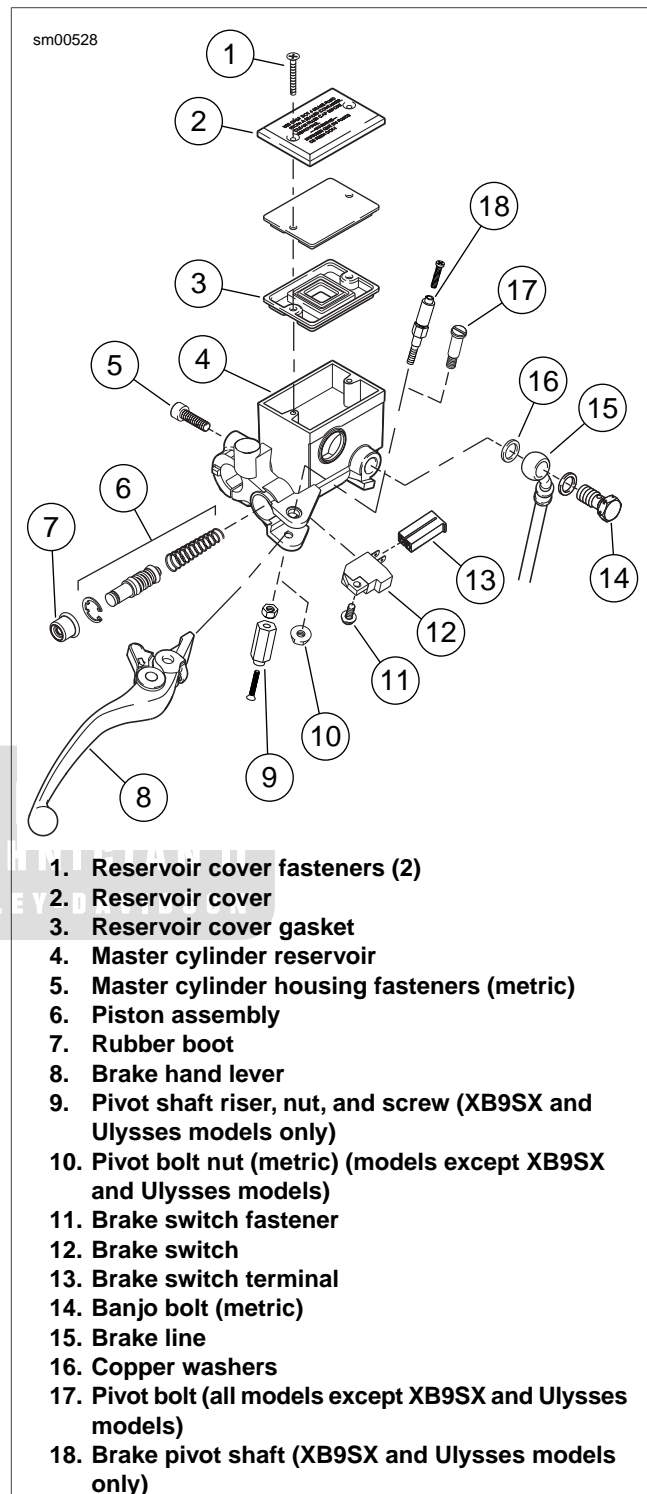

Figure 2-50. Front Brake Hand Lever Assembly
- See Figure 2-50. Remove the banjo bolt (14) (metric) and two copper washers (16) to disconnect brake line (15) from master cylinder (4). Discard copper washers.
- Unplug terminal (13) to detach brake lamp switch (12).
1. See Figure 2-50. On XB9SX, XB12XT, XB12XP and XB12X models, remove the pivot shaft riser and nut (9) from the brake pivot shaft (18) to detach the brake hand lever (8).
2. On all other models, remove pivot bolt nut (10) (metric) and pivot bolt (17) to detach the brake hand lever.
3. Detach front brake hand lever (8).
4. Detach front brake switch (12) by removing the brake switch fastener (11).
1. See Figure 2-50. Remove reservoir cover (2) by removing cover fasteners (1).
3. Remove rubber boot (7) and discard.
5. See Figure 2-50. Remove piston assembly (6) from master cylinder reservoir (4) and discard.
4. See Figure 2-50. Insert piston assembly (6), spring first, into master cylinder reservoir (4).
1. See Figure 2-50. Lubricate pivot bolt (17) with LOCTITE ANTI-SEIZE.
2. Align hole in brake hand lever (8) with hole in hand lever pivot. Install pivot bolt (17) through top of hand lever pivot and thread nut on pivot bolt. On XB9SX, XB12XT and XB12X models, tighten nut to 39-48 **in-lbs** (4.4-5.4 Nm). On all other models, tighten nut to 80-120 **in-lbs** (9-13.5 Nm).
1. See Figure 2-50. Install front brake switch (12).
- a. Install brake switch (12) with switch fastener (10) and tighten to 7-10 **in-lbs** (0.8-1 Nm).
- b. Connect brake switch terminal (13) to brake switch (12).
3. See Figure 2-50. Connect brake line to master cylinder using two **new** copper washers (16) and banjo bolt (14) (metric) and tighten to 16-20 **ft-lbs** (22-27 Nm).
10. See Figure 2-50. Attach master cylinder cover (2) and cover gasket (3). Tighten two cover fasteners (1) to 9-13 **in-lbs** (1.0-1.5 Nm).
5. See Figure 2-50. Remove master cylinder banjo bolt (metric) (14) and two copper washers (16) to disconnect brake line from master cylinder. Discard copper washers.
1. See Figure 2-50. Connect brake line (15) to master cylinder reservoir (4) using two **new** copper washers (16) and a banjo bolt (14) (metric). Loosely install bolt into master cylinder.